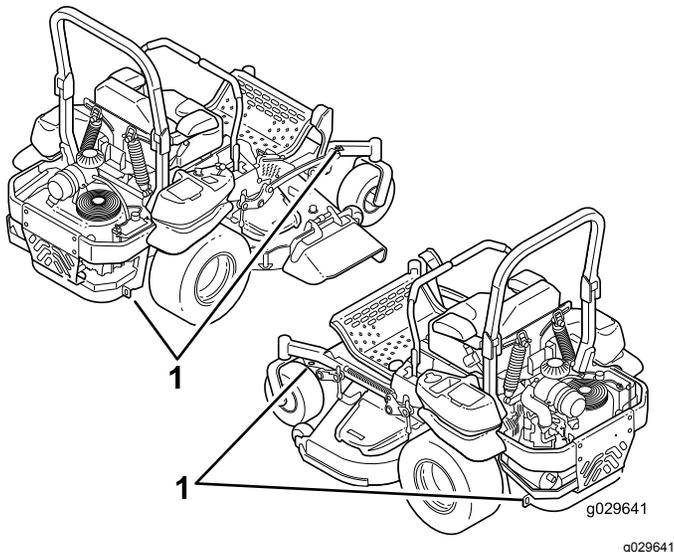

Figure 42
5. Use the tie-down loops on the machine to securely fasten it to the trailer or truck with straps, chains, cable, or ropes (Figure 42).